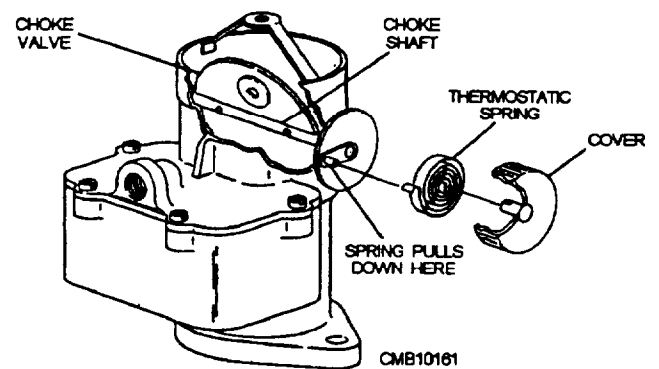

Figure 4-32.—Automatic choke.
• Automatic chokes (fig. 4-32) have replaced the conventional manual choke. They control the air-fuel ratio for quick starting at low temperature and also provide for the proper amount of choking to enrich the air-fuel mixture for all conditions of engine operation